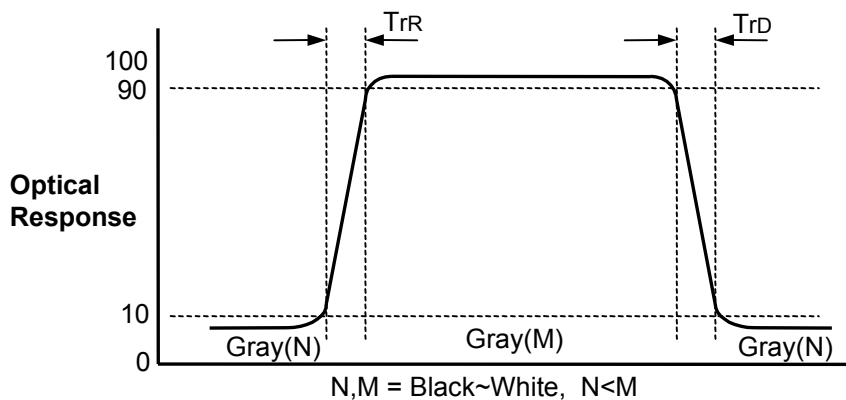

FIG.3 Response Time(G to G)
4. Response time is the time required for the display to transition from G(N) to G(M) (Rise Time, T_{R}) and from G(M) to G(N) (Decay Time, T_{D}). For additional information see the FIG. 3. (N<M)